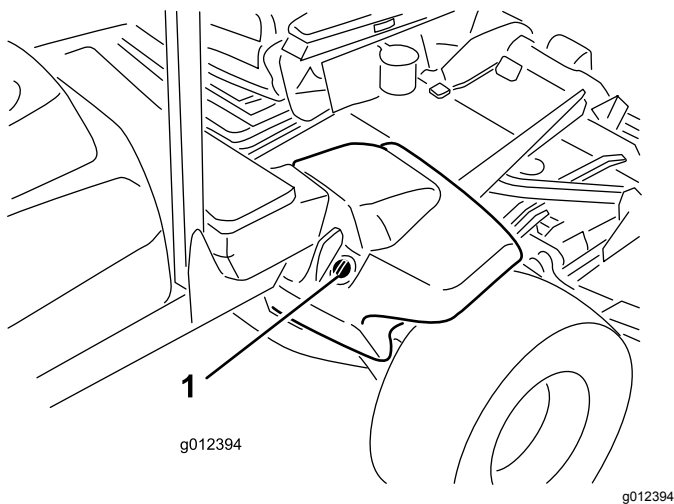

Figure 22
2. Clean the area around the filler neck and the cap of the hydraulic tank (Figure 22).